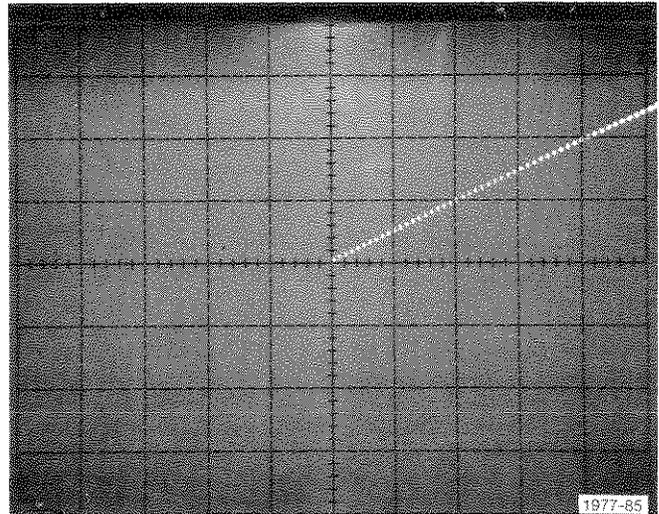

Fig. H-6. Typical display of mirror gain measurement.
a. Adjust the -SUPPLY control clockwise to put the display off screen. Then turn the -SUPPLY control counterclockwise until the display start is at graticule center horizontally and vertically (see Fig. H-6). The -SUPPLY control must not be less than 1/4 turn clockwise from the detent.
with the mirror current at 200 μ A (i.e., 40 steps at 5 μ A/step, see Fig. H-6).